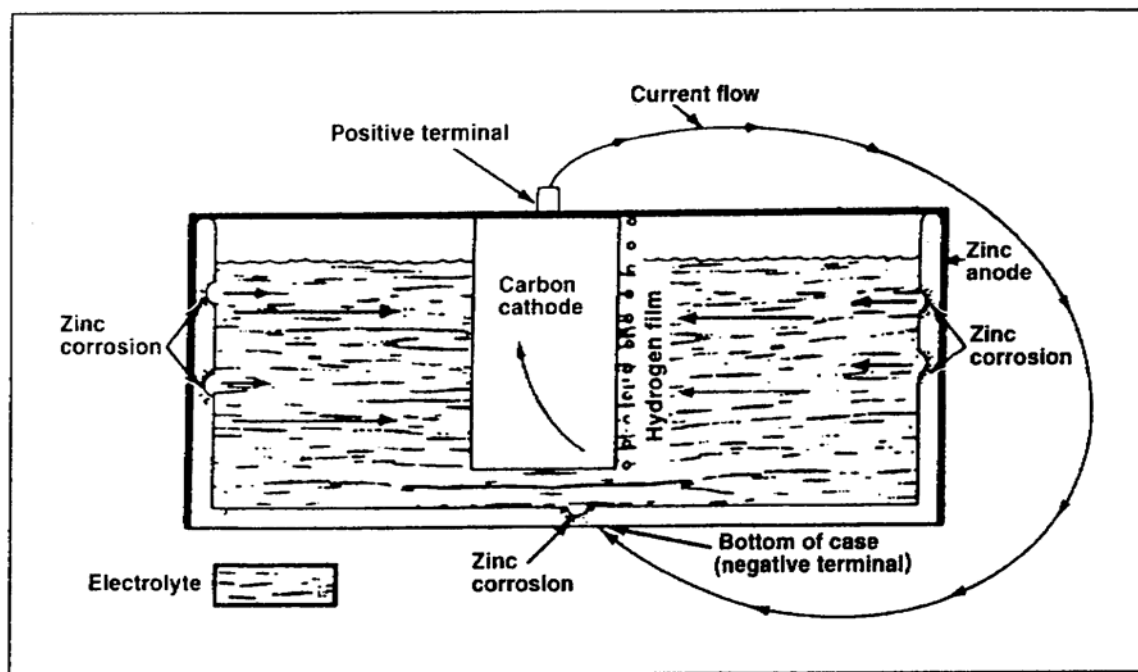

Figure 5-1. Electrochemical-corrosion theory of a battery cell
a. **Electrochemical Theory.** The most common theory of corrosion is called electrochemical. An electrochemical-corrosion theory is best explained by the action that takes place in a battery cell (Figure 5-1). A galvanic battery cell is produced by placing two dissimilar metals in a suitable electrolyte that is a conducting medium in which the flow of current is accomplished by the movement of matter in the form of ions. The resulting electrochemical reaction develops a potential difference between these two metals, causing one metal to be anodic and the other metal to be cathodic. In a dry cell, the zinc case is the anode (positive terminal) and the carbon rod is the cathode (negative terminal). When an external electrical circuit is completed, current flows from the zinc case into the electrolyte, taking with it particles of zinc. This is an example of galvanic corrosion of the zinc case.